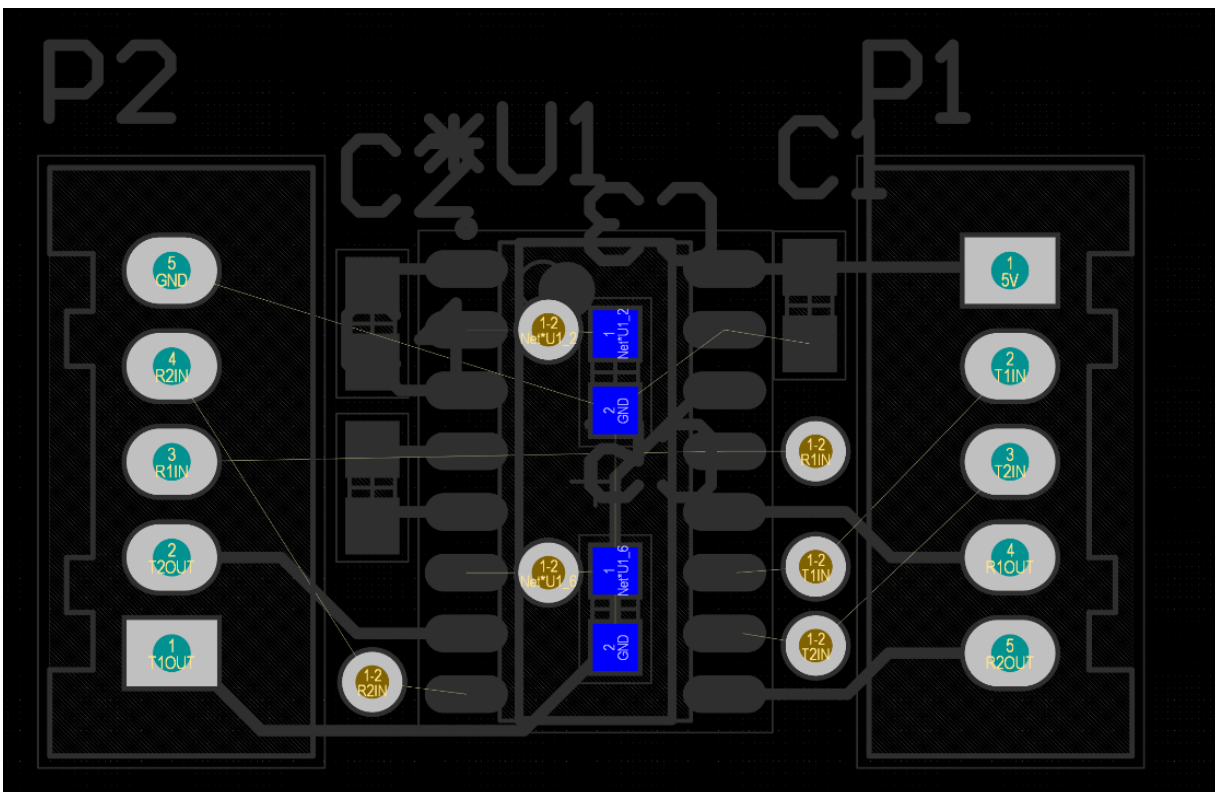

Figure 17: Bottom View of Fully Labelled Vias
28. Select the node that is closest to your via, if confused refer to Figure 17.
29. If you labelled all your nodes correctly, you should have a layout similar to Figure 17. Notice how the net connections have now changed to include the vias.